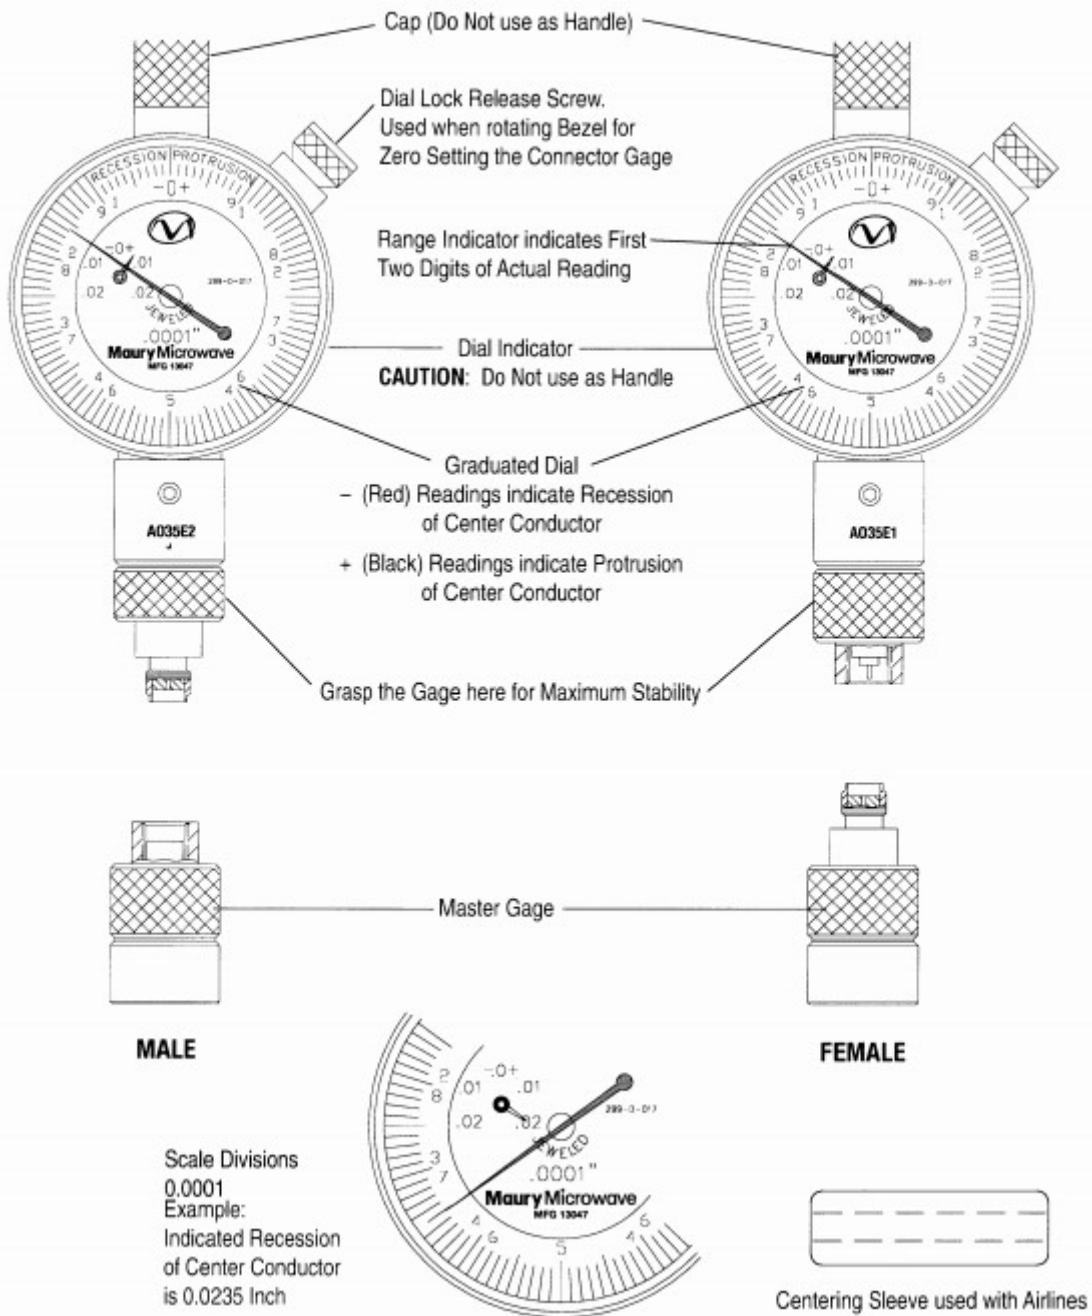

Figure 1. The A035E Connector Gage Kit
The Maury model A035E connector gage kit is designed to measure 1.85/2.4mm connectors with either female or male interfaces. For simplicity, the rest of this manual will refer to measuring in inches. The Maury A035E connector gage kit achieves excellent repeatability by maintaining tightly controlled tolerances on all machined parts. To achieve maximum accuracy, Maury recommends that an average of 3 measurements taken at different gage orientations be used to minimize random errors. See **Figure 1**.
4. Loosen the dial indicator. Retighten the dial lock (Figures 1 and 9).